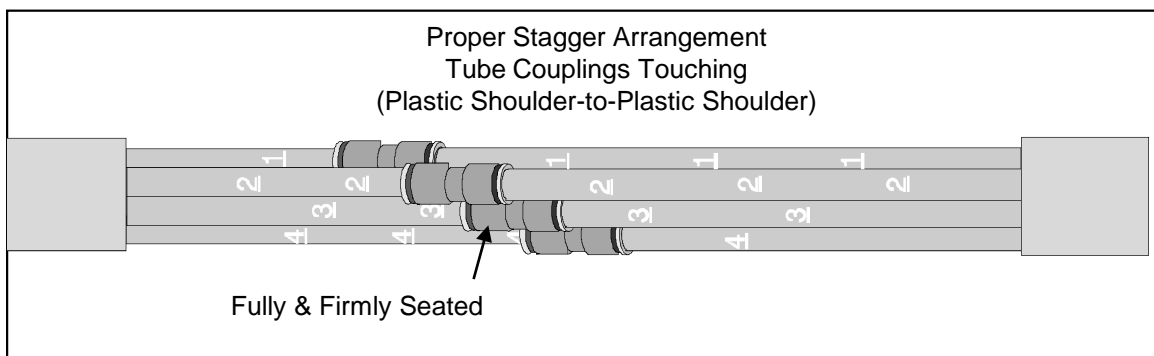

Figure 5
7.4 Be sure to accomplish Tube Coupling stagger arrangement at each splice point as described in SRP SP-F04-016. This arrangement places the plastic shoulder of one Tube Coupling against the plastic shoulder of an adjacent Tube Coupling. This is necessary to prevent a Tube Coupling from being pressed into and possibly compressing / kinking an adjacent bare tube when the shrink sleeve is collapsed. **See Fig. 5.**